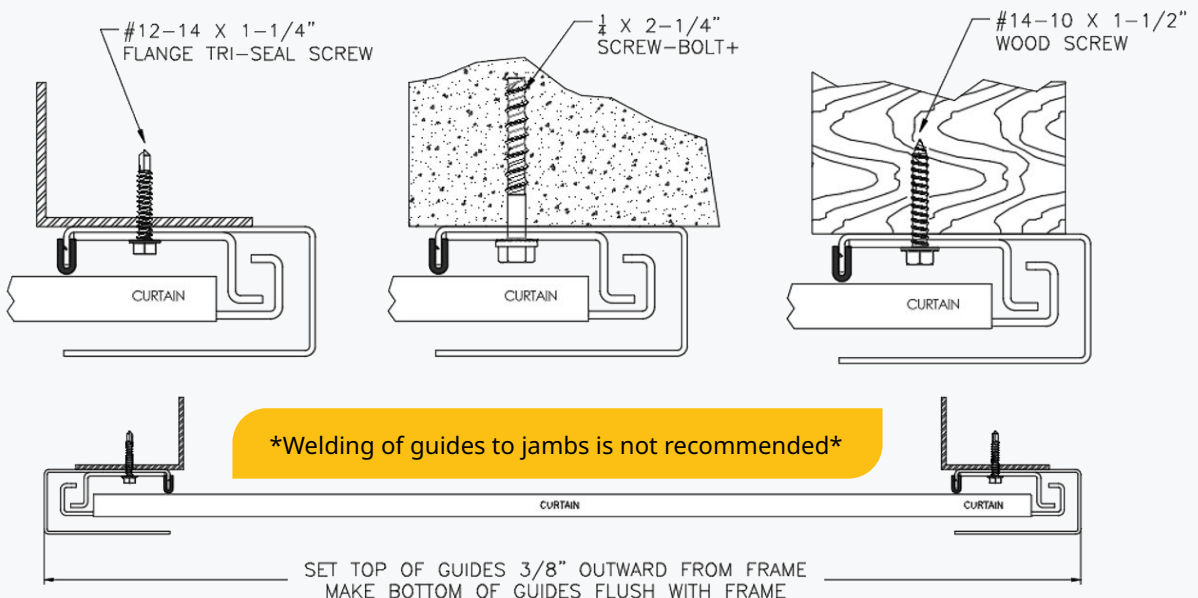

figure 7a: Outside of guide to outside of guide
- ✦ Ensure wind locks and wind bar are properly positioned before rolling the door down. See Figure 7a.